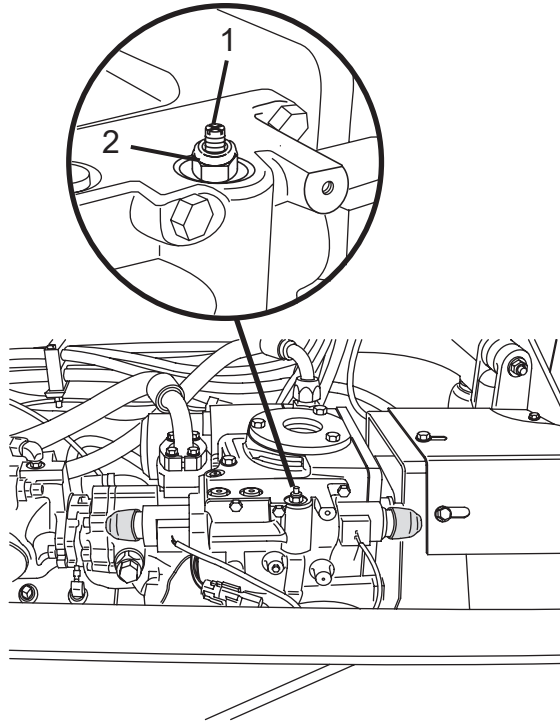

Figure 38
In the event of an electrical failure, the pump neutral adjustment screw (Figure 38, Item 1) can be adjusted to temporarily “lock” the drum in the CHARGE position to allow the truck to be driven to the shop for repair.
2. Loosen the adjustment eccentric screw lock nut (Figure 38, Item 2) using a 9/16” wrench.
3. Using a screwdriver, rotate the pump neutral adjustment eccentric screw (Figure 38, Item 1) until the drum is rotating at approximately 1 to 1-1/2 RPM in the CHARGE direction.
4. Hold the pump neutral adjustment eccentric screw (Figure 38, Item 1), while tightening the lock nut (Figure 38, Item 2) with the 9/16” wrench.